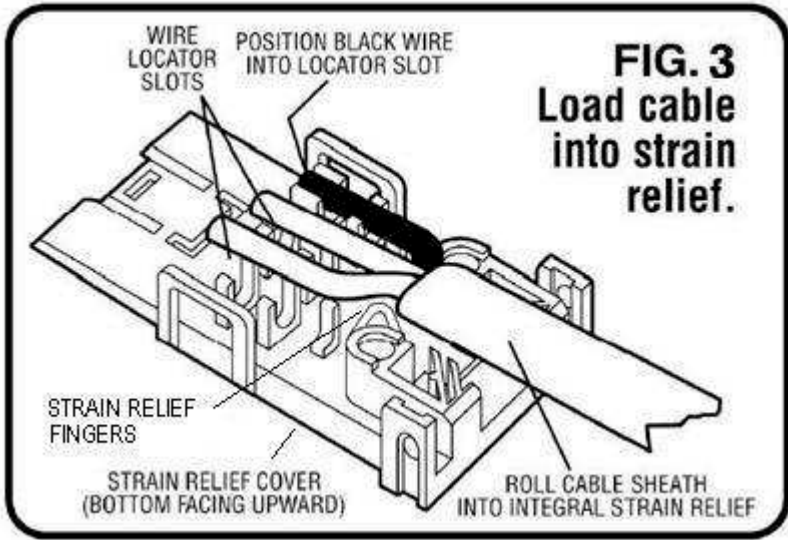
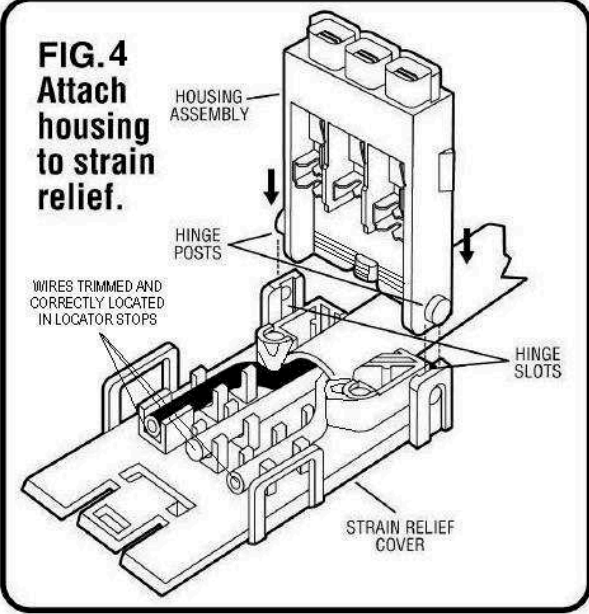

FIG. 3
FIG. 4
- Hold the clear strain relief cover with bottom facing upward as shown in **Figure 3**.
- Lay wire into locator slots, making sure the black wire is placed into the polarization slot as shown in **Figure 3**.
- Press the cable sheath into the integral strain relief slot as shown in **Figure 3**. Trimming of ground wire and possibly others will be necessary. Wires must not extend beyond the locators as shown in **Figure 4**!
- While holding the strain relief cover, position the housing's hinge posts into the hinge slots and press down until both lock into place as shown in **Figure 4**.